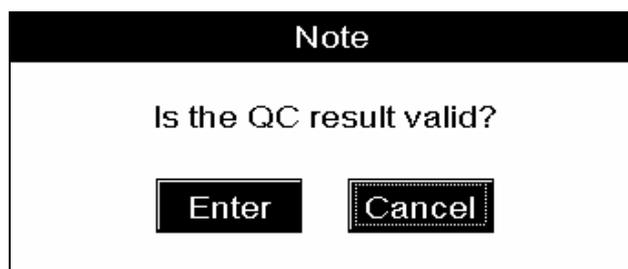

Figure8-24 A message to confirm the validity
4. When the analysis is finished, the sample probe is replaced, the analysis result is displayed on the screen, and a message box pops up to confirm the validity of the analysis result, as Figure8-24 shows;